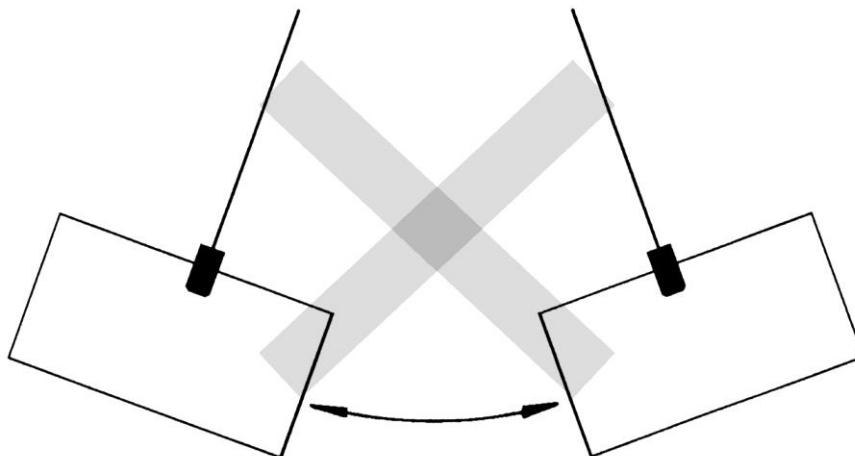

Figure 1.
- When carrying the load, make sure that the load cannot go into swing (Figure 1) or hit anything.